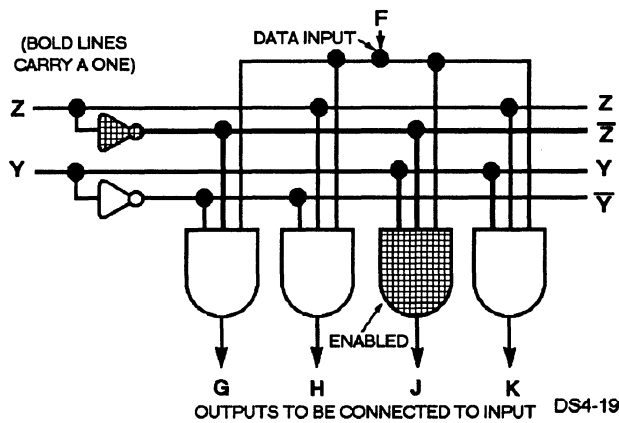

Figure 4-19.—Example of a demultiplexer circuit.
- **Demultiplexer** —A data demultiplexer routes data from one input to anyone of several outputs. Refer to figure 4-19.